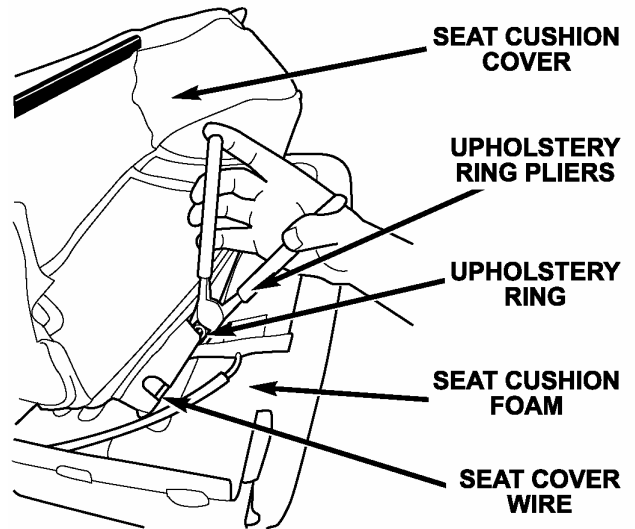

Figure 5
26. Attach the center of the seat cushion cover to the grid wire in the seat foam with the upholstery rings supplied in the kit (Figure 5).